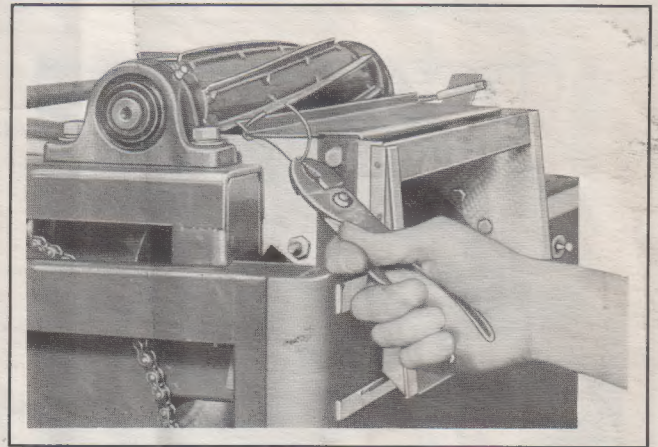

Fig. 4
- (a) Remove the wire, as shown in Fig. 4, to release the Safety Plate.